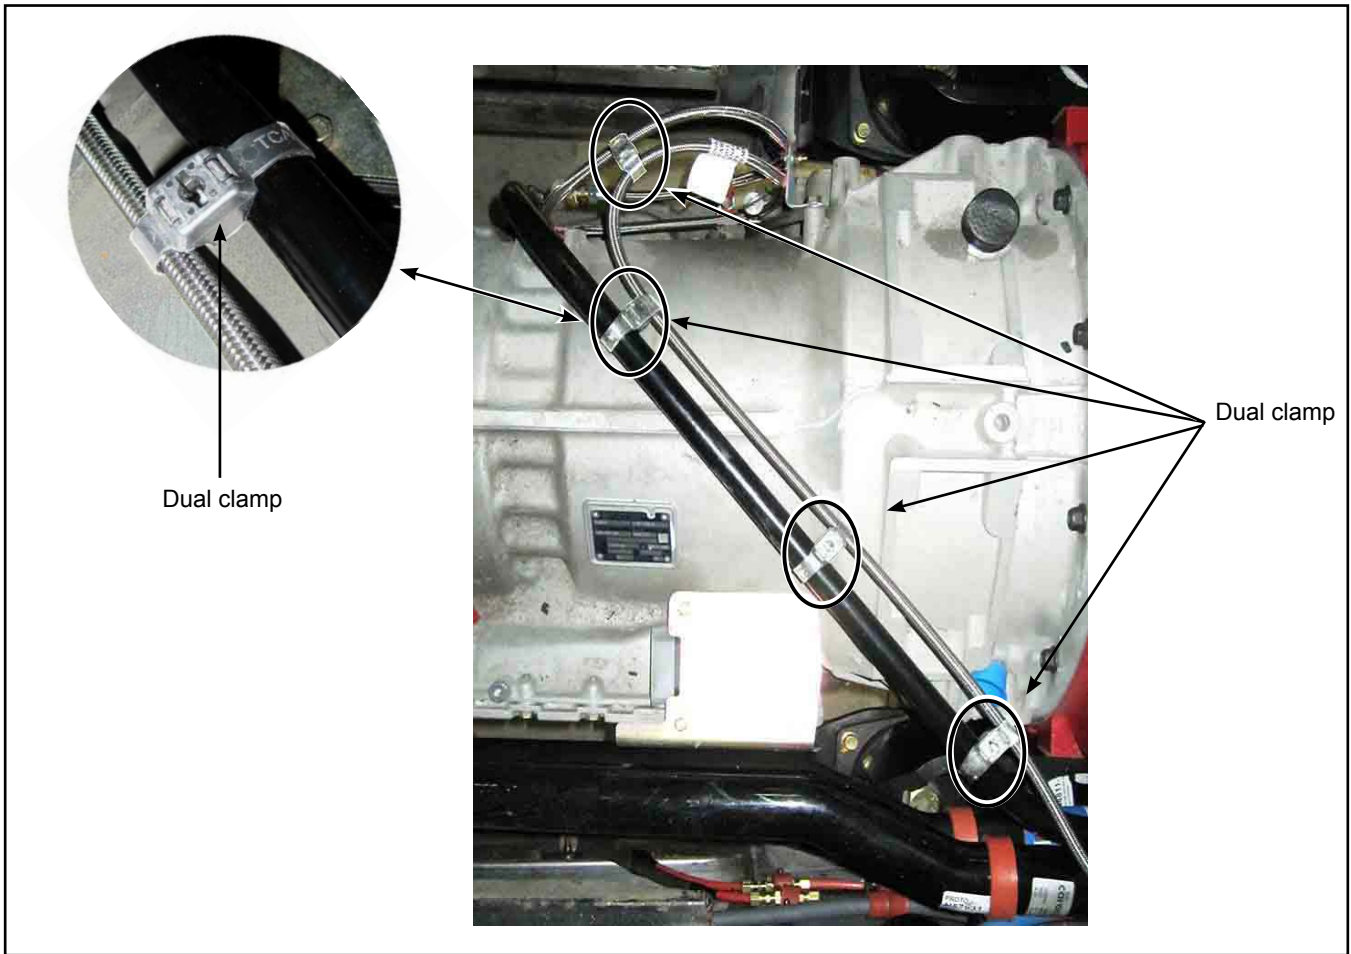

Figure 8 - Dual Clamp Locations
1.13. Install four dual -clamps as illustrated in Figure 8.